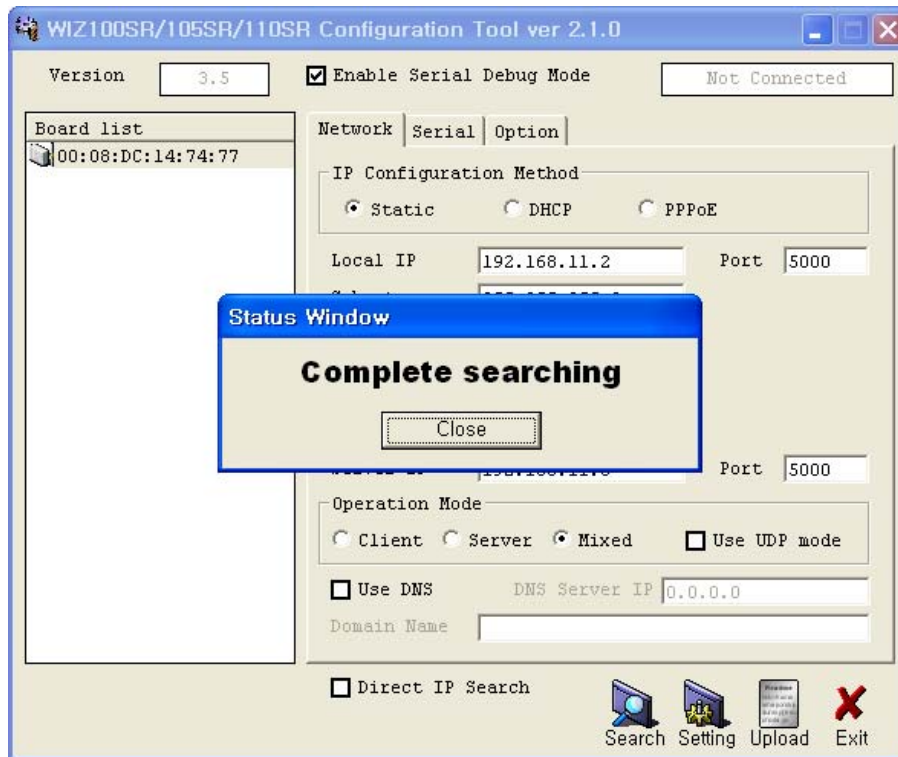

Figure 10. Board Search Window
3. As shown in Figure 10, select Option tab and check 'Enable' combo box of "Password" menu.
- ① Select a module shown in "Board list", and click "Upload" button.
- ☞ Before uploading through Ethernet, you should set the network information of WIZ105SR first by Configuration Tool program as shown above Fig 10. By using Ping test, you can check if network is correctly configured.
- ② When the window as shown below Figure is displayed, select file for upload and click "Open" button.